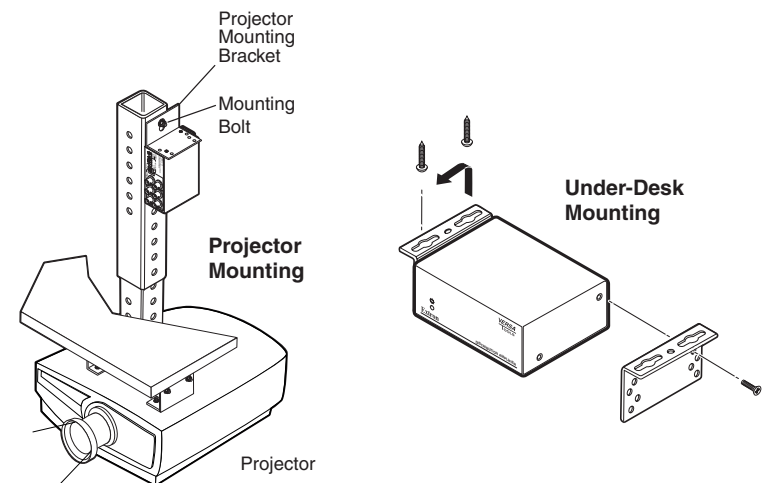

Figure 3 — Desk and projector mounting the BBG 6 A
2. Attach the mounting brackets to the BBG 6 A with the machine screws provided (figure 3).